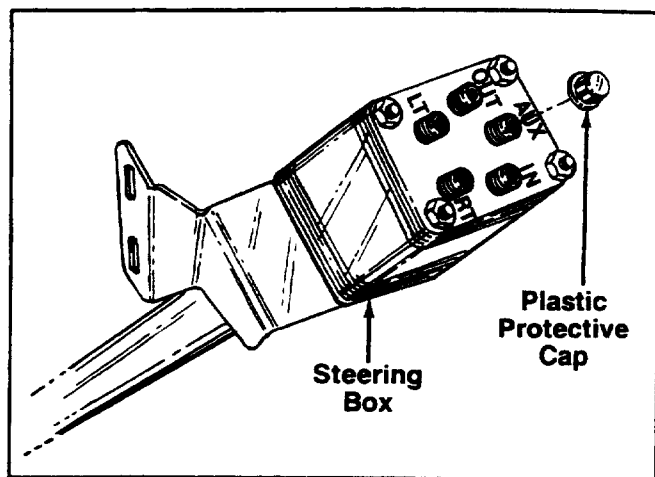

FIGURE 14.
6. Remove the five plastic protective caps (used for shipping only) from the bottom of the steering column assembly. See figure 14.